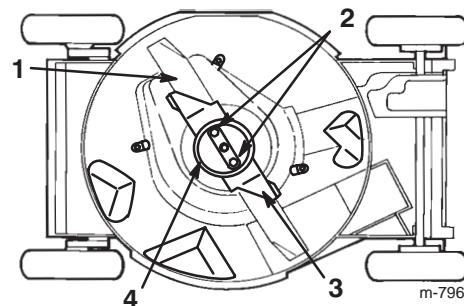

Figure 26
4. Tip the lawn mower onto its **right** side (Fig. 26).
Grasp the end of the blade using a rag or a thickly padded glove. Remove the blade nuts, the anti-scalp cup, the accelerator, and the blade (Fig. 26).
5. Remove 2 blade nuts, the anti-scalp cup, the accelerator, and the blade (Fig. 26).